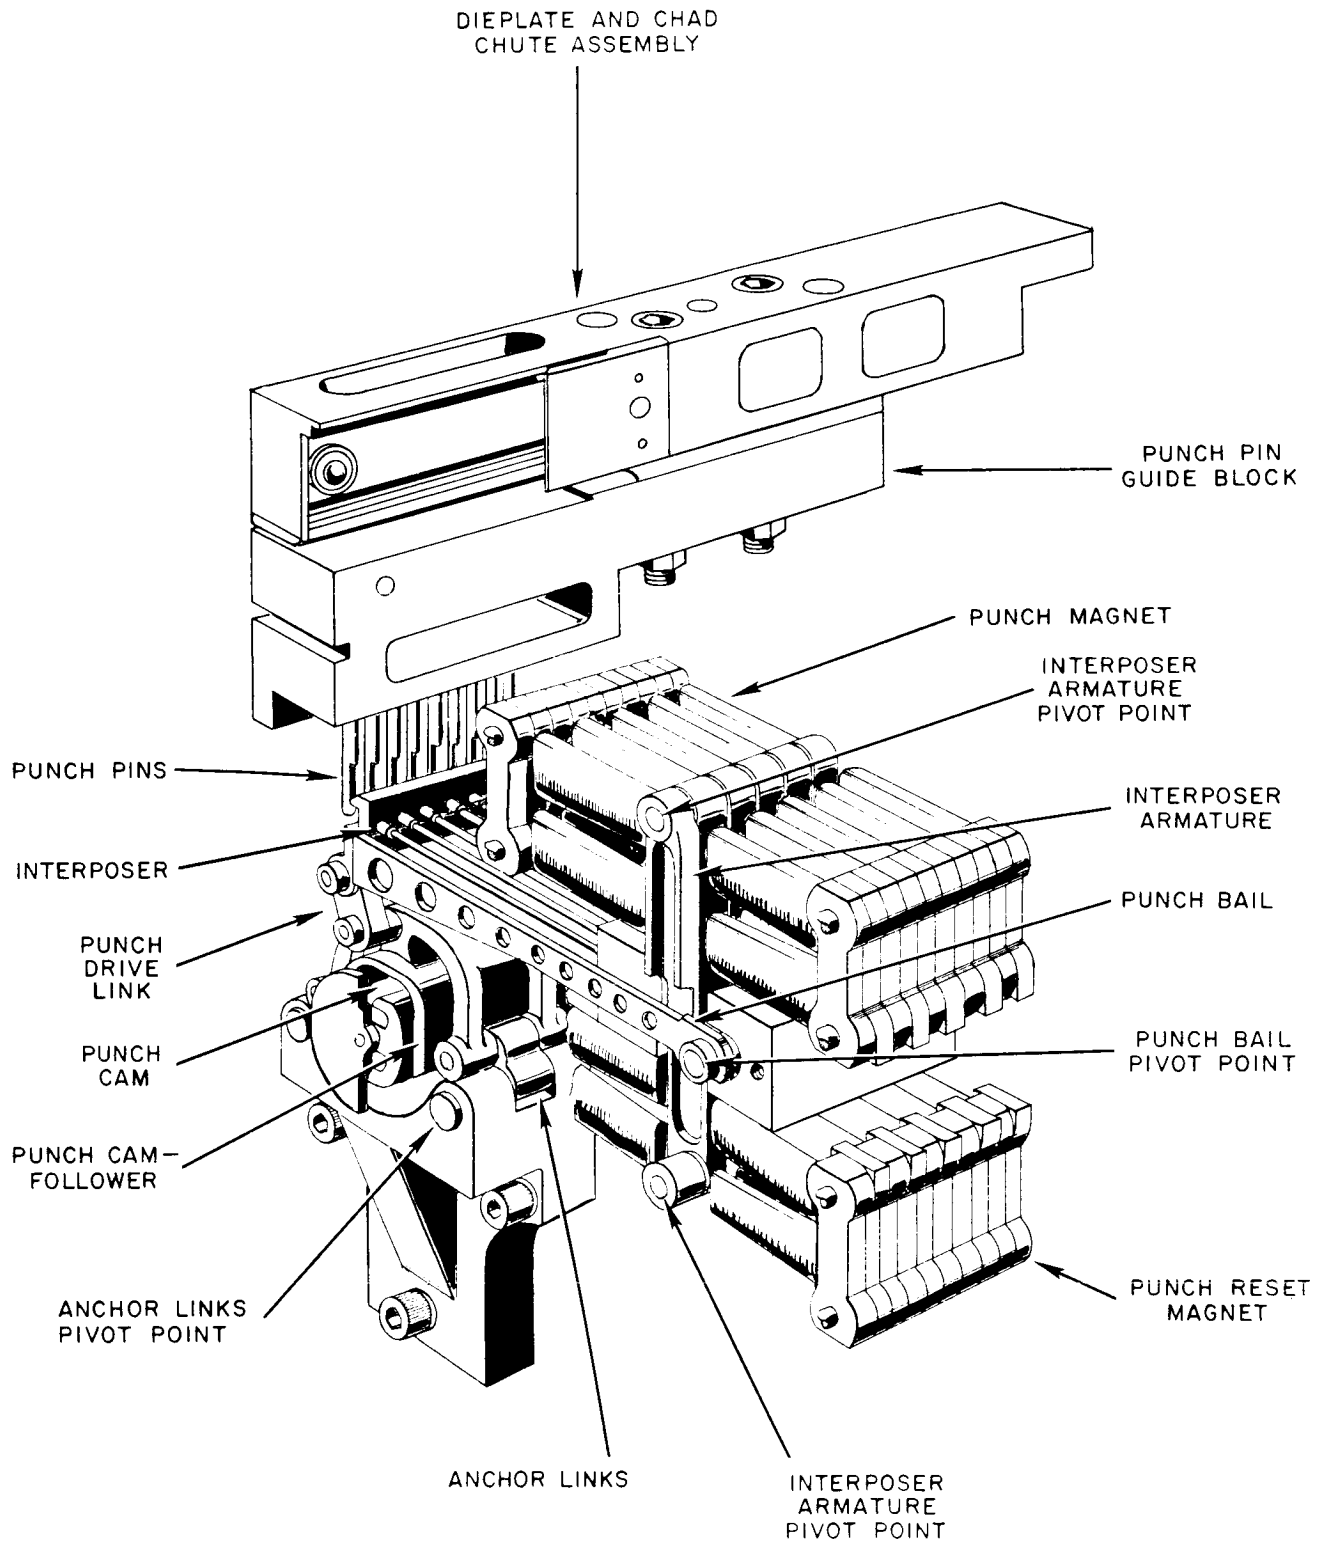

Figure 4-6. Perforator Simplified Schematic of Punching Mechanism
(2) TAPE PUNCHING MECHANISM. - The tape punching mechanism perforates, in one row across the width of the tape, one feed hole and up to five information holes. The punched holes are on 0.100 inch centers across, as well as along the length of the tape. The diameter of the feed holes is 0.0465 inches, and that of the information holes is 0.070 inches. One row of holes consists of three information holes, the feed hole, and two other information holes. The information holes represent letters and numbers in the Baudot code. The operation of the punching mechanism is illustrated in figures 4-6 and 4-7.